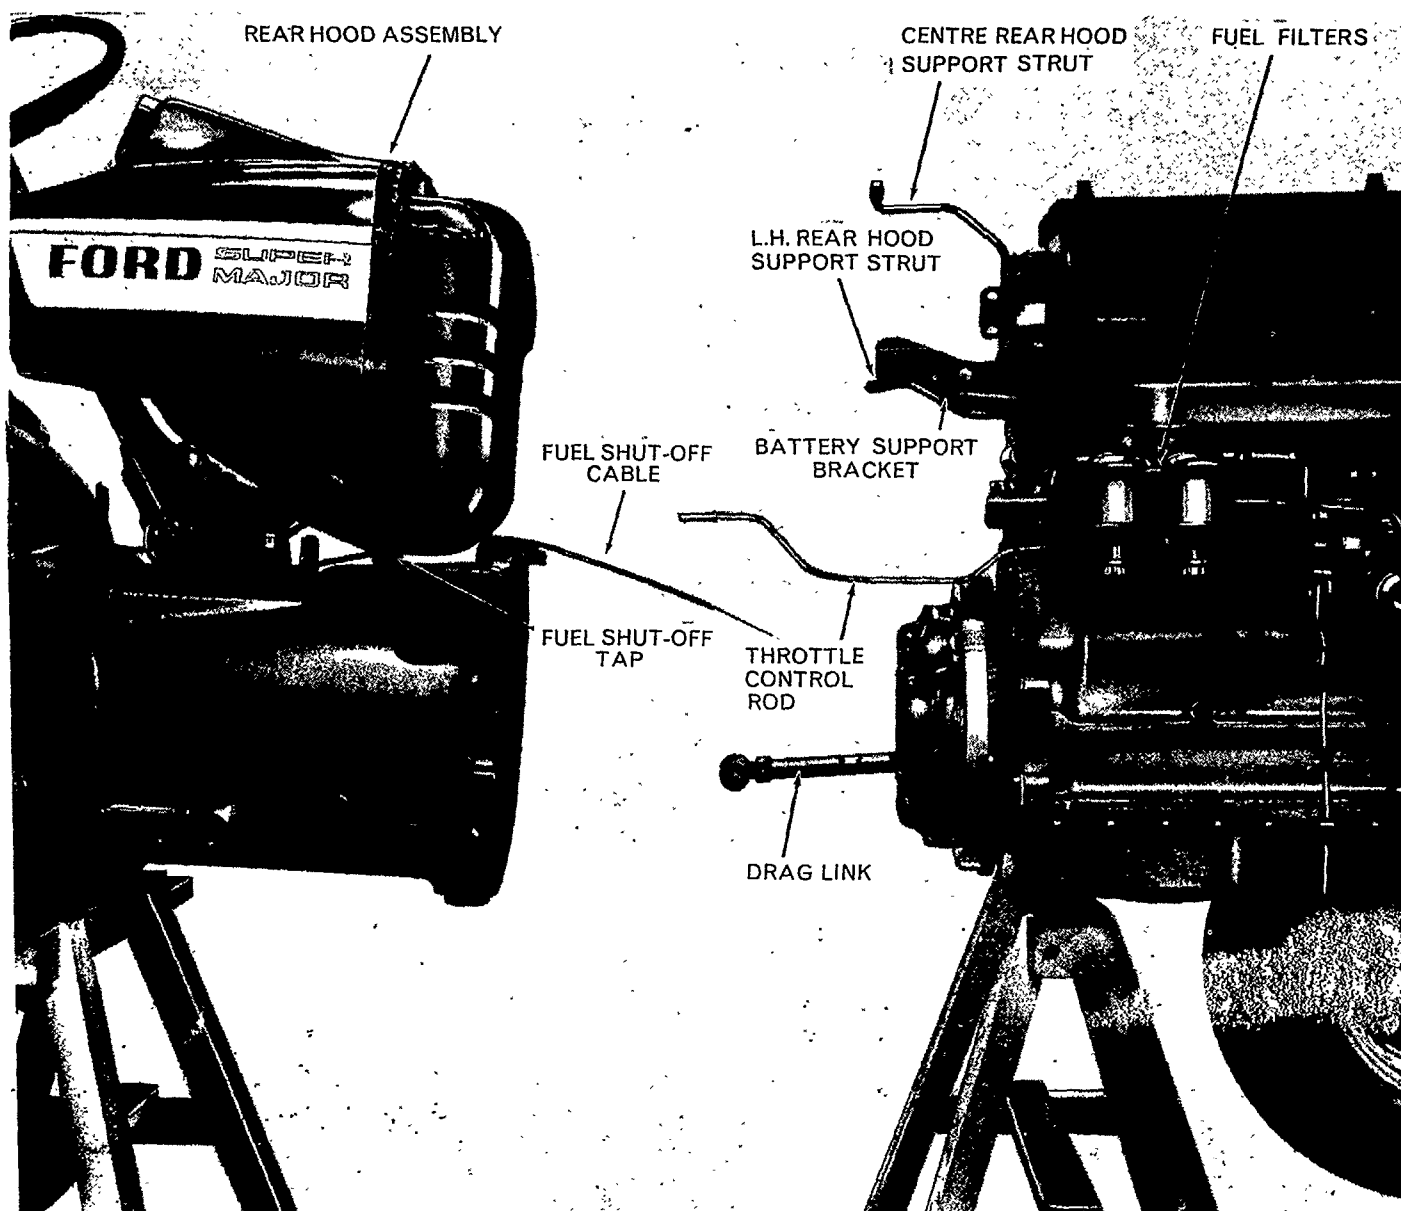

Figure 6
10. Disconnect the centre and left-hand, rear hood assembly support struts, Figure 6, by removing the respective nuts, bolts and washers.
11. Remove the two nuts, bolts and washers which secure the battery support bracket, Figure 6, to the rear hood panel assembly.
15. Disconnect the remaining three wiring leads from the starter relay terminals. (See item 19 regarding tractors with 'C' prefix.)
16. Remove the spring clip and disconnect the horizontal throttle control rod, Figure 6, from underneath the fuel tank.
17. Disconnect the fuel shut-off cable, Figure 6, at the arm on the fuel injection pump. Choke control on gasoline engines.
6. Reconnect the fuel leak-off pipe, Figure 6, and tighten the screw clamp.
7. Reconnect the engine shut-off cable, Figure 6, on diesel engined tractors, to the arm on the fuel injection pump. Allow approximately $\frac{1}{4}$ in. (6.35 mm) free movement of the cable at the control panel. Reconnect choke cable on gasoline engines.
16. Install the two nuts, bolts and washers securing the battery support bracket, Figure 6, to the rear hood panel assembly.